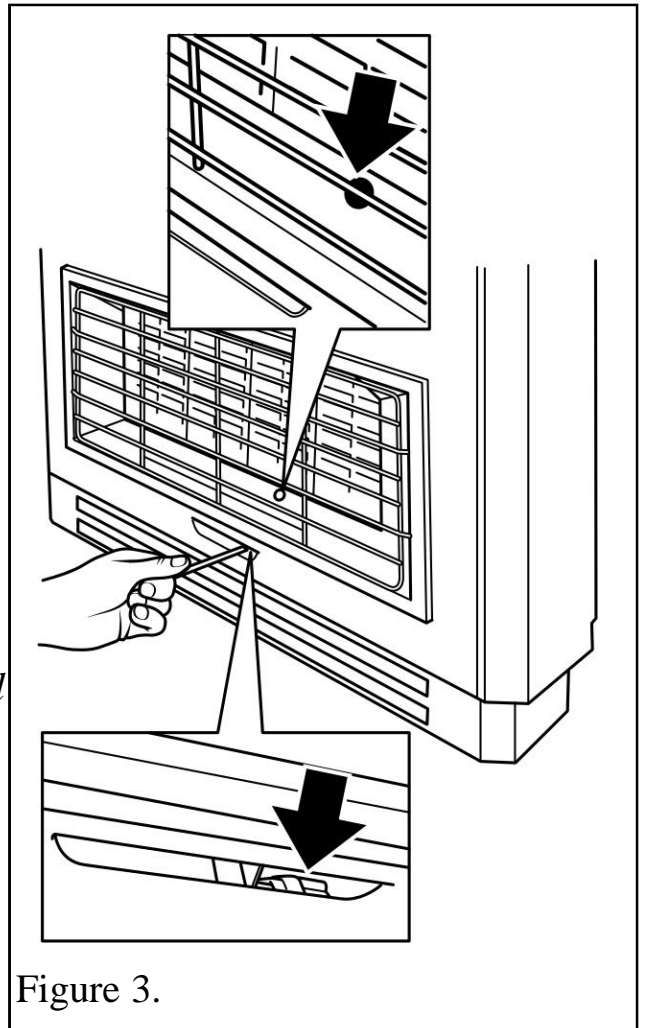

Figure 3.
- Depress the control knob and turn anticlockwise towards the 1/IGN position. A spark should be generated at the pilot while turning. The spark should ignite the pilot. **If it does not**, keeping the knob depressed, continue to turn the knob anticlockwise. A **second** spark should ignite the pilot. The pilot flame can be seen through the opening immediately below the right hand centre radiant (See figure 3).
- Depress the control knob slightly and turn anticlockwise towards the 1/IGN position. Do not apply too much pressure as this will cause resistance to be felt. Depress the control knob. Sparks should be generated at the pilot. The sparks should ignite the pilot. If the pilot does not light, turn the control knob back to the 'OFF' position and try again. The pilot flame can be seen through the opening immediately below the right hand centre radiant (See figure 3).
While keeping the knob depressed, light the pilot by inserting a long match or taper into the opening shown in figure 3 (Second opening from the right).